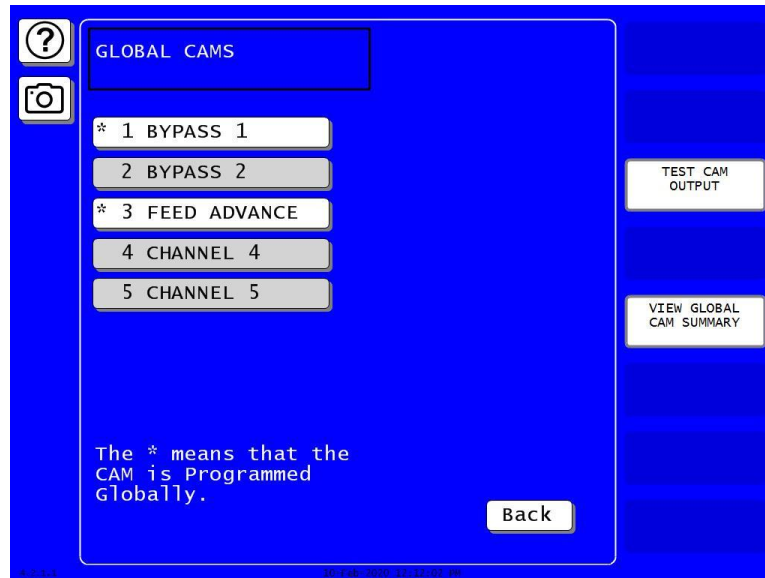

Figure 4-12. Global Cams Menu
1. Select SET GLOBAL CAMS on the Main Initialization Menu. The Global Cams menu displays, Figure 4-12. An asterisk (*) indicates the channels that are already programmed as global cams.